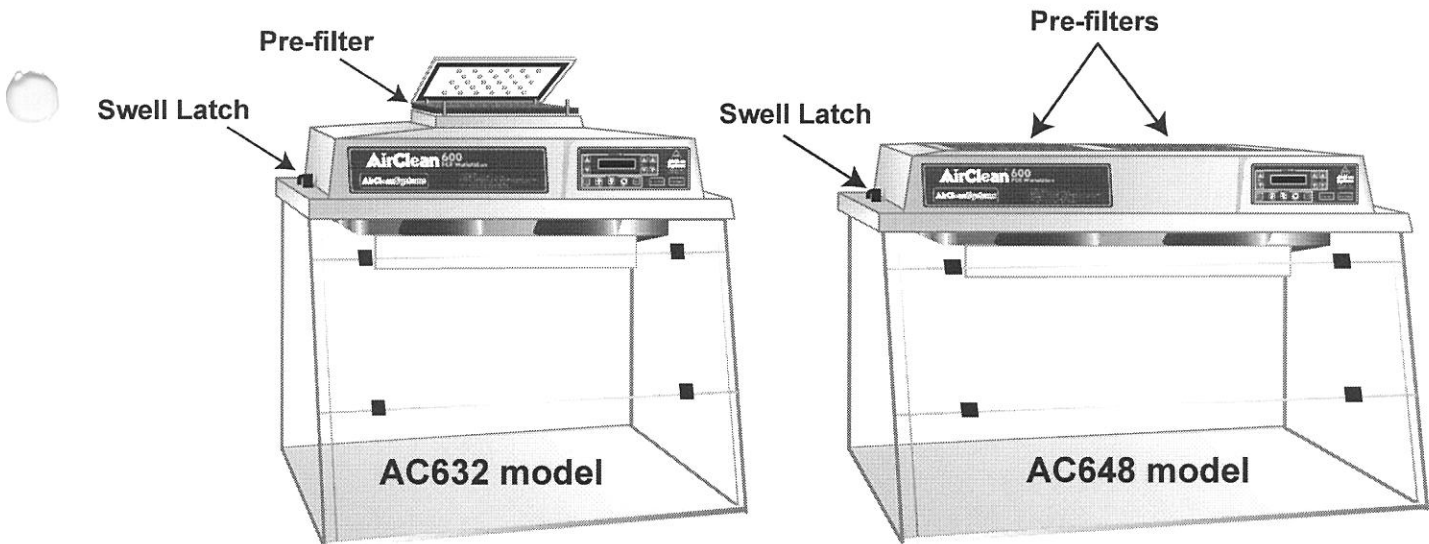

Figure 3, Pre-filter and swell latch locations.
- 7) Make sure that the swell latches, located on the side lip of the head assembly, are in the latched (down) position and that the head assembly is secure and properly seated. See figure 3. (Page 10)